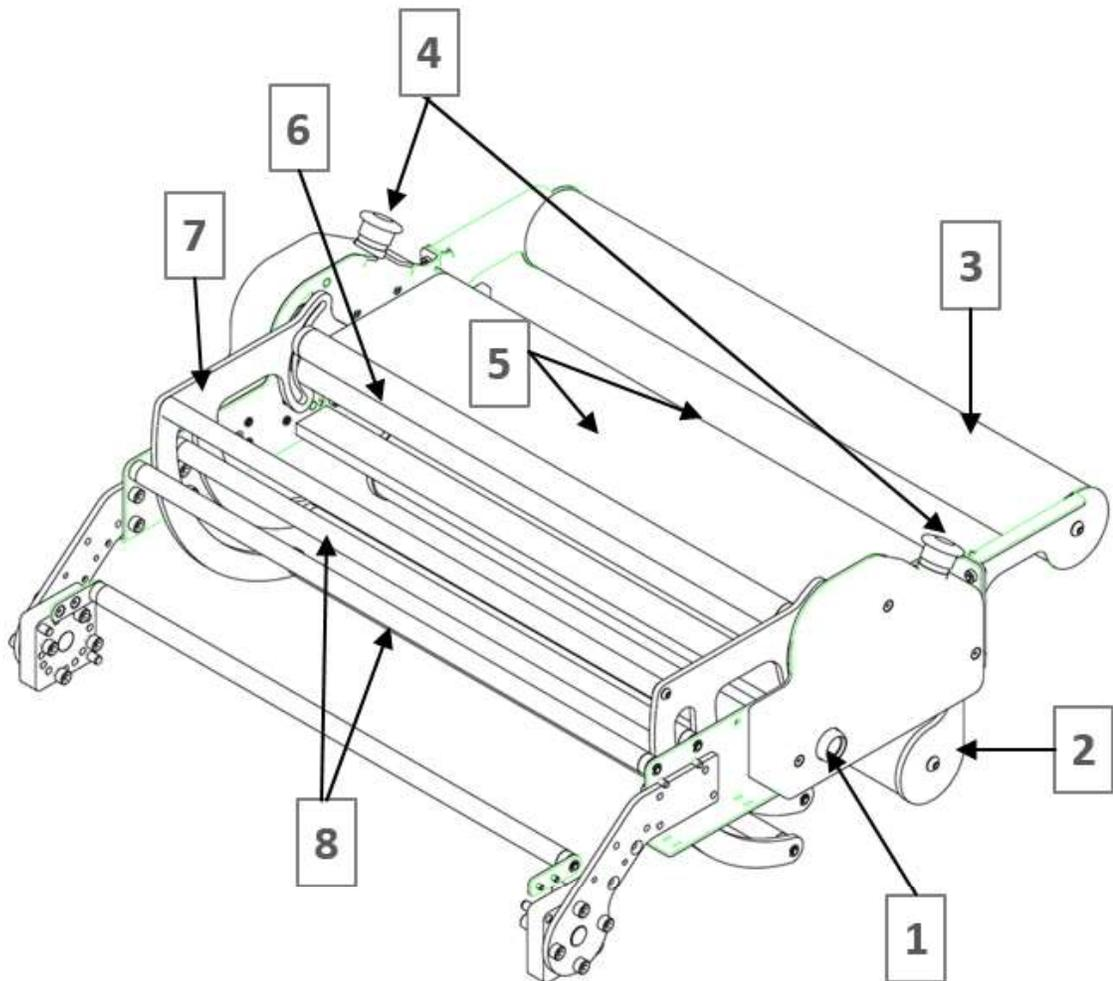

FIGURE 3-15. TENSION CONTROL UNIT (TCU)
- a. Push the TCU Control button (Figure 3-15, item 1) located on either side of the machine to open the dancer.